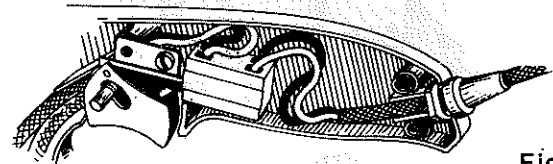

Fig. 7
1. Remove the five screws that secure the handle cover and carefully lift it from the tool. Note the locations of all wiring in the handle and how each connection is made to the switch. Connections and wiring position must be identical when installing the new switch. See Figure 7.